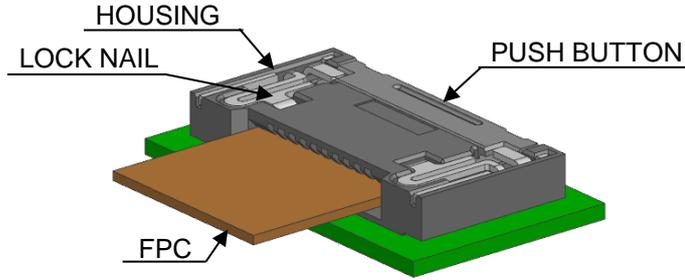
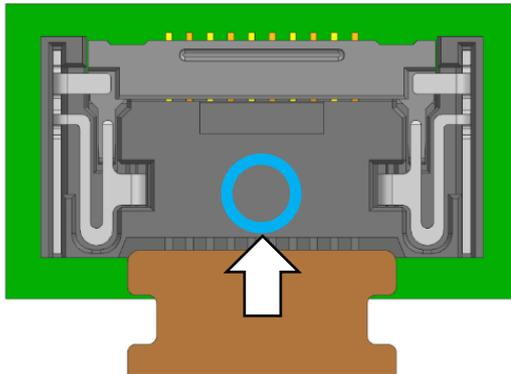
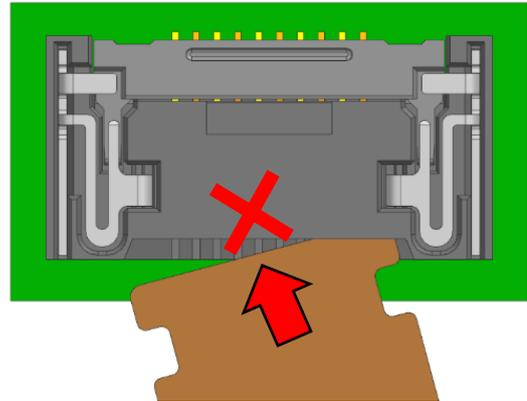

Fig 1. Image of FPC insertion
Fig 2. Straight insertion
Fig 3. Diagonal insertion
- 32. When inserting the FPC into the connector ensure to insert the FPC until the end of the FPC touches the housing and check the connector's lock nail is securely engaged with the FPC's ear. (See Fig.1) Diagonal insertion of the FPC into the connector could cause short circuit due to the misaligned pitch, terminal deformation and damage on FPC contact area due to interference of the FPC edge to the terminal contact. (See Fig.2 and Fig.3)